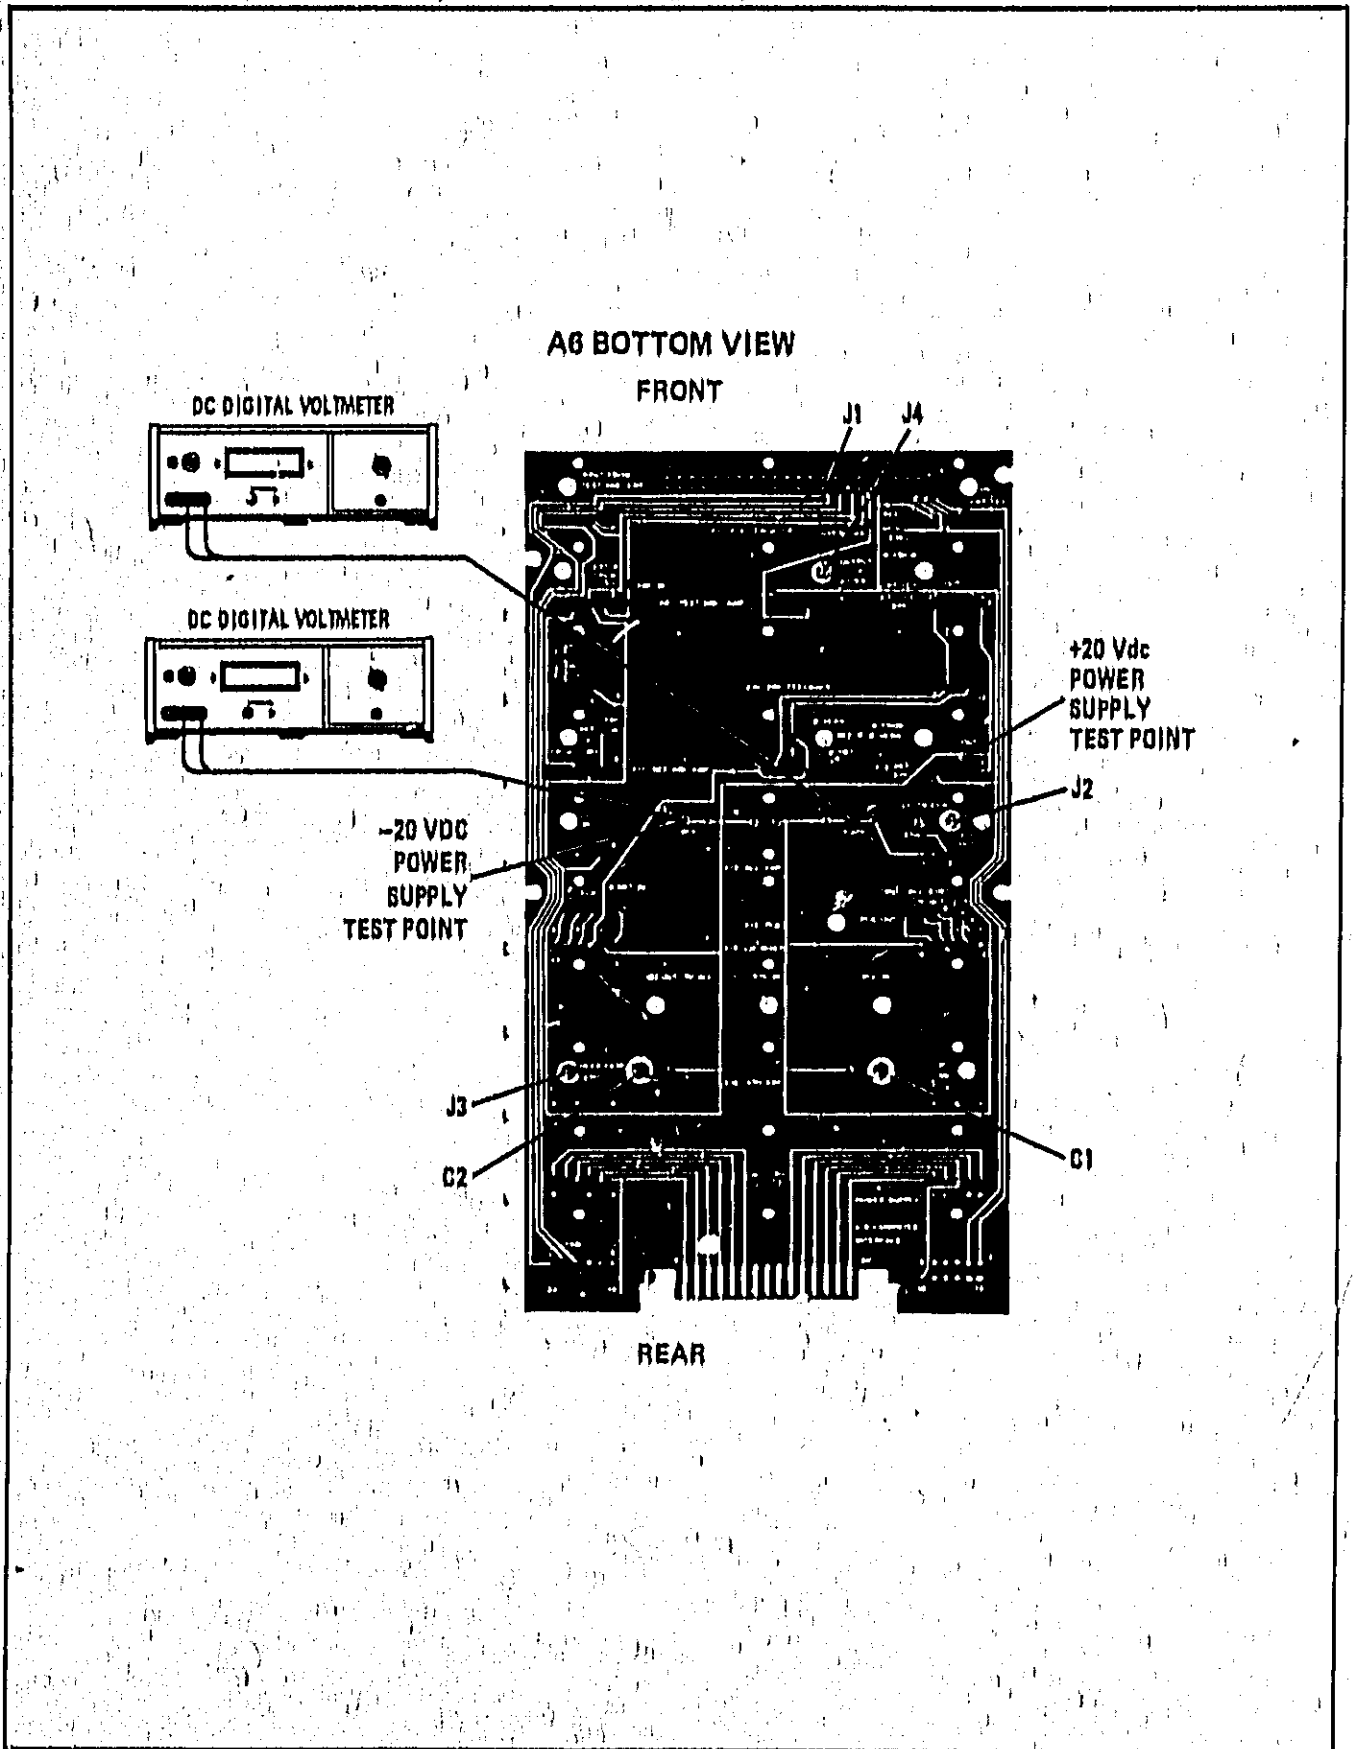
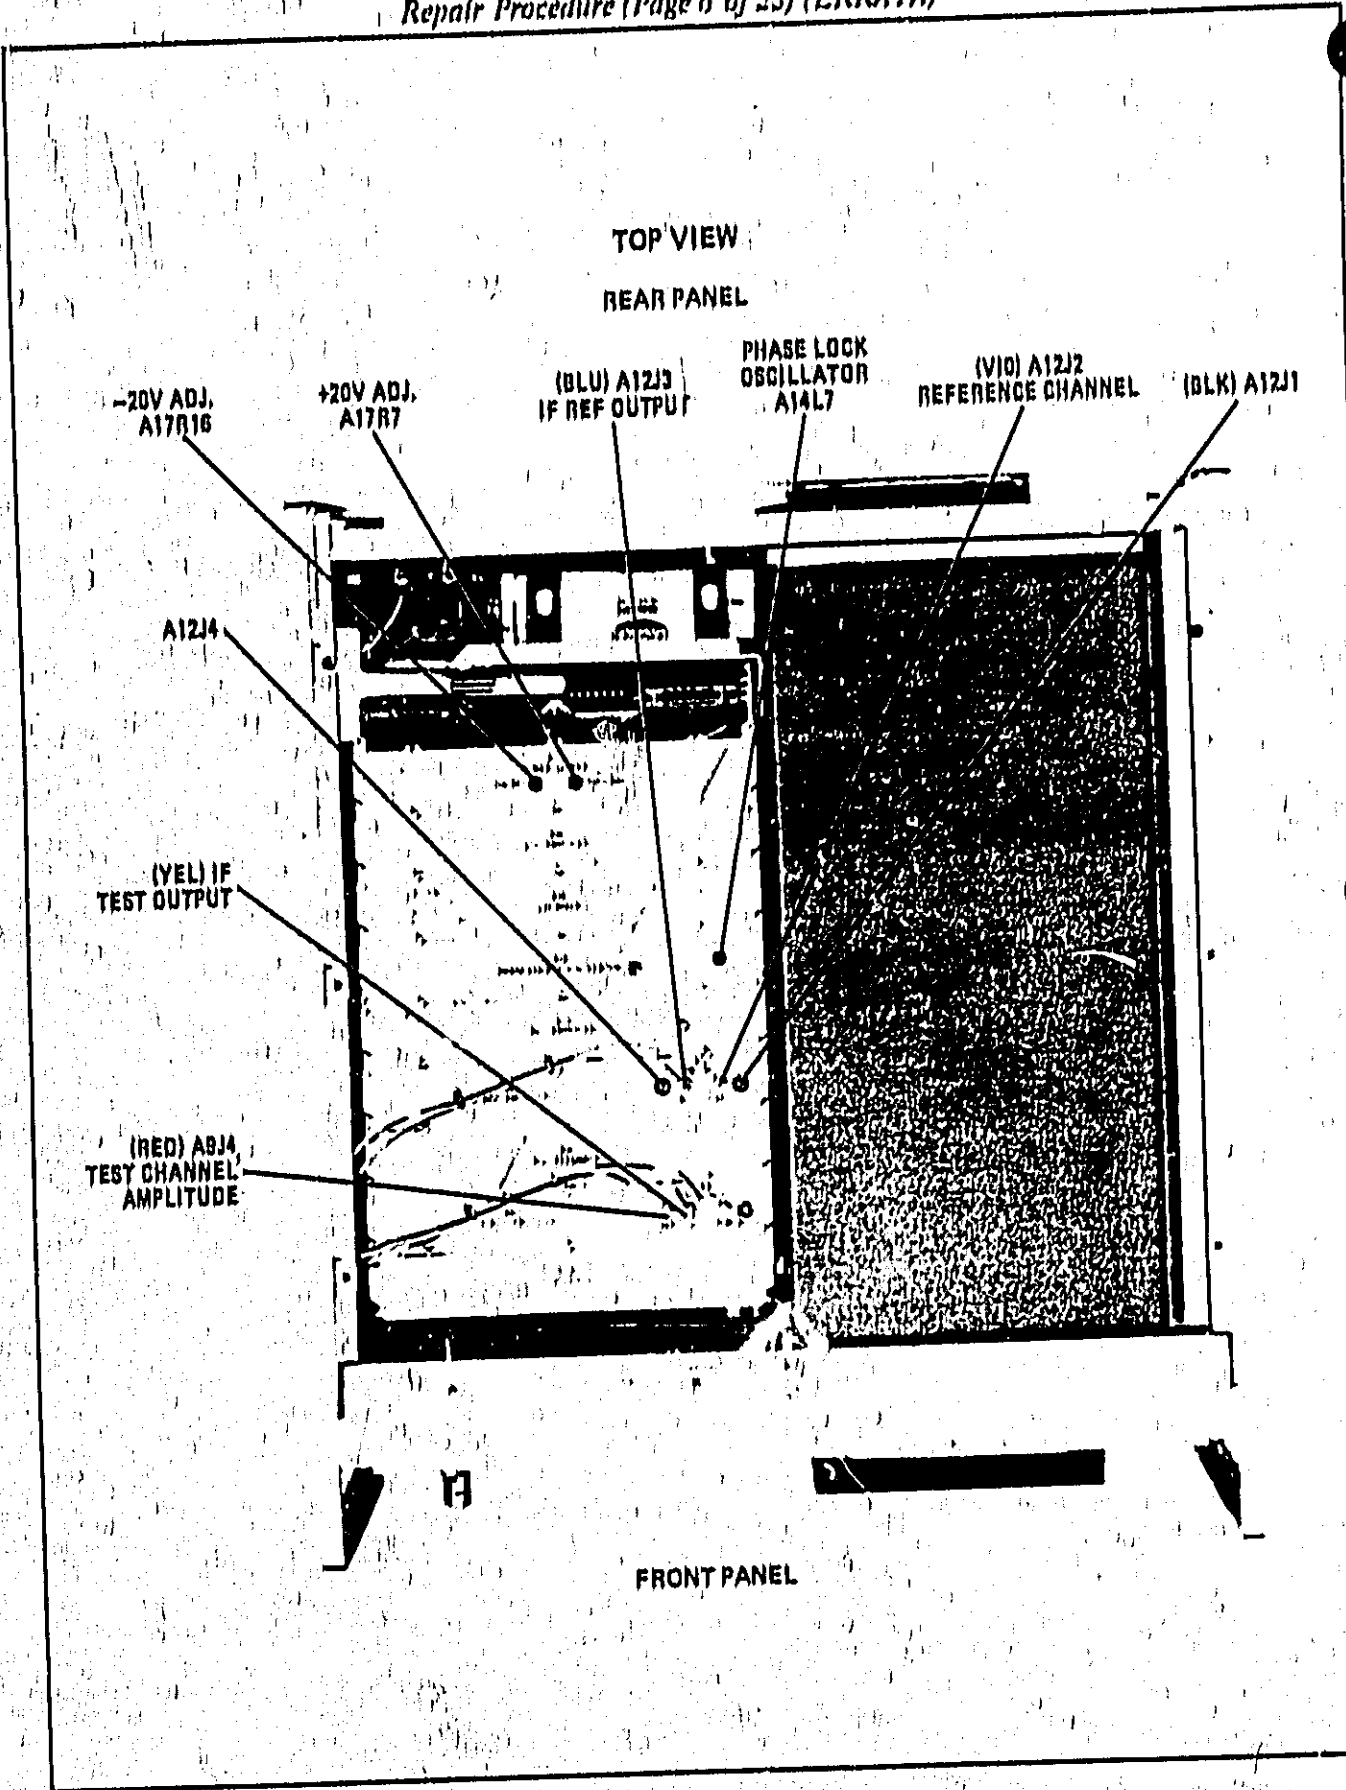
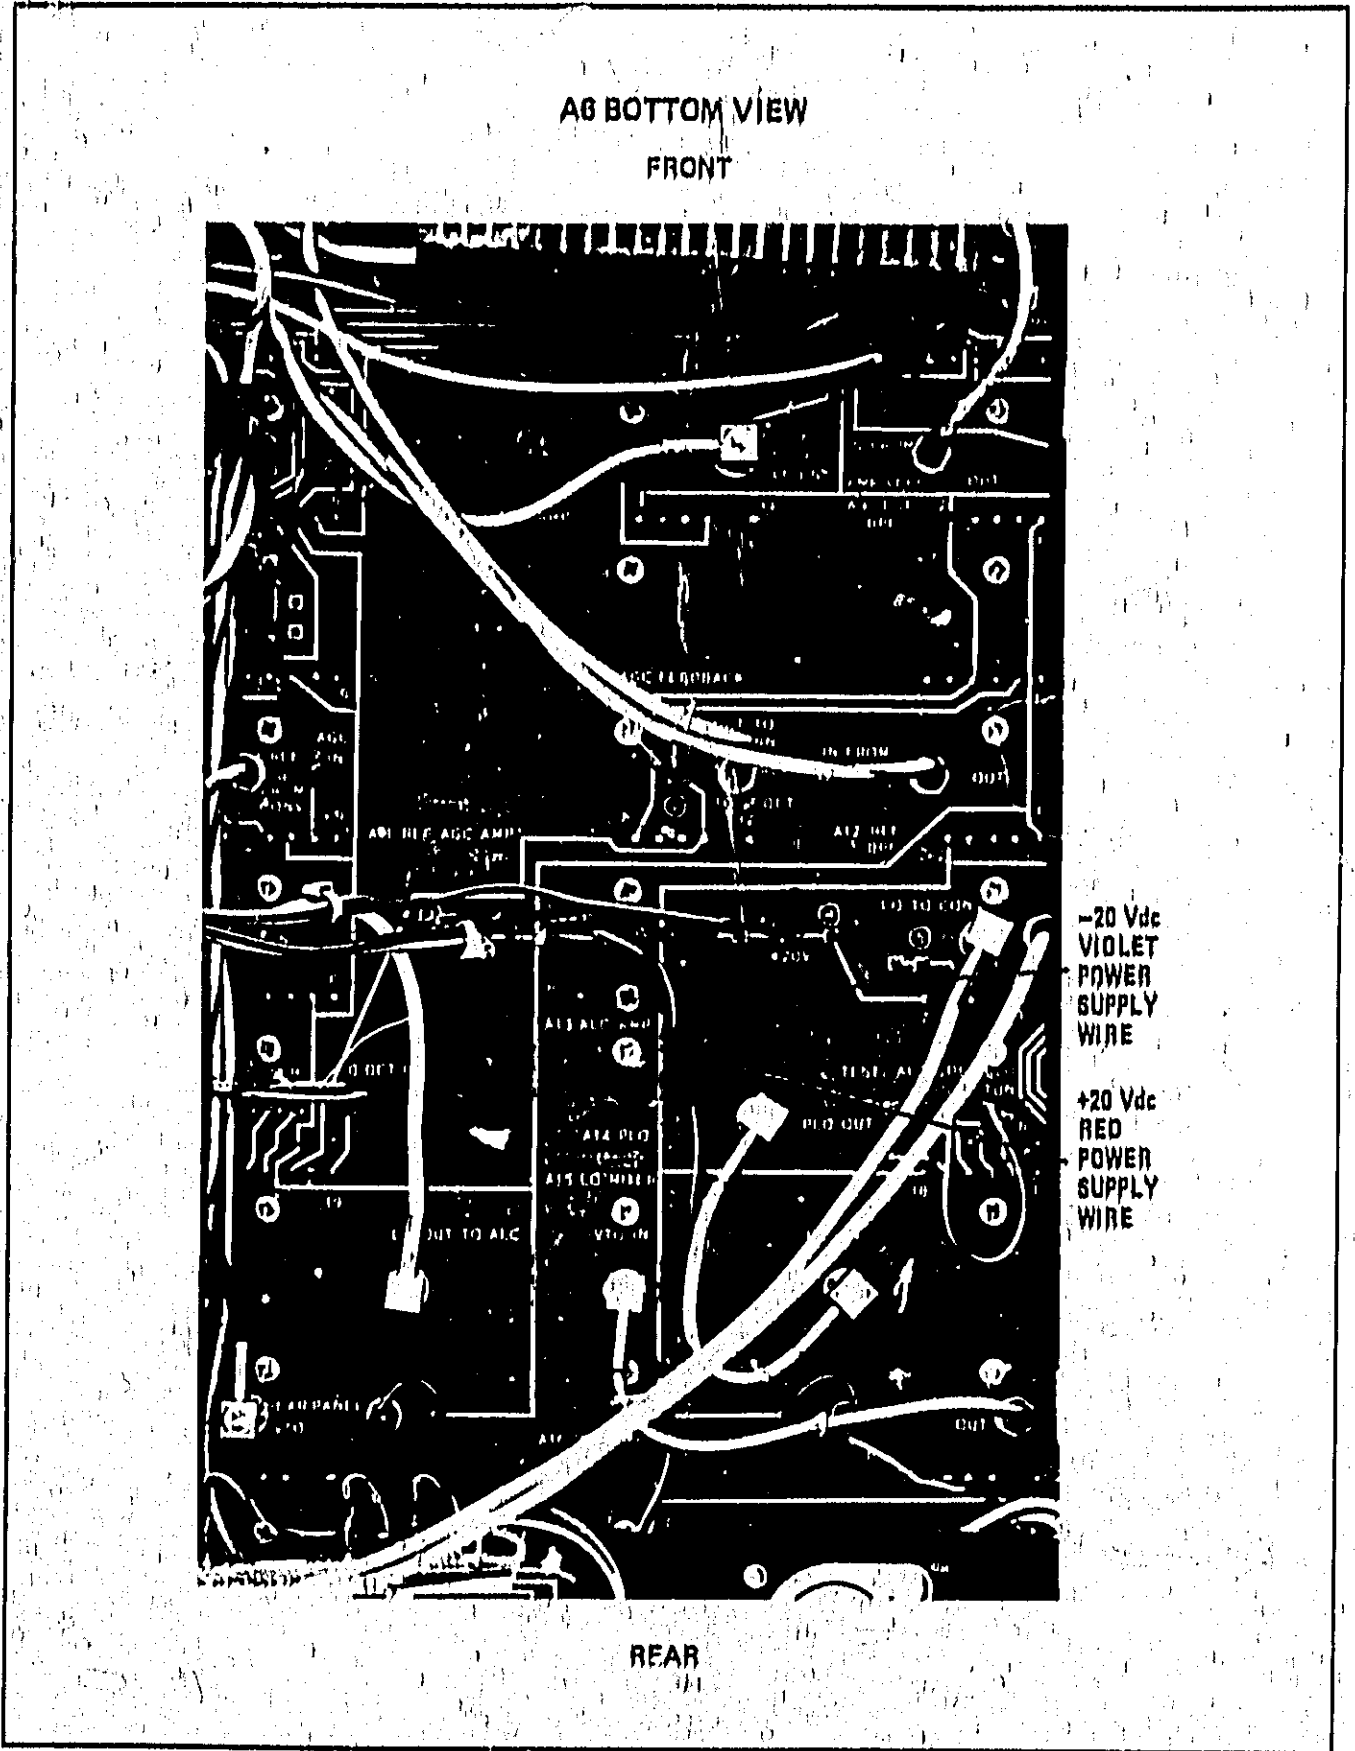

Figure 7-2D. Plus and Minus 20 Vdc Power Supply Test Point Location
Figure 7-2E. Power Supply and Phase Lock Adjustment Location
Figure 7-2F. Location of ±20V dc RED and VIOLET Power Supply Wires
a. Connect a Digital Volt Meter to the "+" 20V supply on the bottom of the AG Master Board of the 8407A (marked +20V), (See Figure 7-2D). Turn on the power to the 8407A. The +20V supply should be $+20V \pm 0.01V$. If this supply is out of specification, adjust A17R7 (see Figure 7-2E). Now connect the DVM to the -20 volt supply. It should read $-20\text{volts} \pm 0.01$ volts. If it is out of tolerance, adjust A17R16 (see Figure 7-2E). If the + or - 20Vdc power supply is low, (less than 15V) turn off the power. Connect ohmmeter first to the +20V supply test point and ground, then to the -20V supply test point and ground (see Figure 7-2F). The resistance to ground of the +20V supply should be $300\Omega \pm 100\Omega$ and the -20V supply ground should be $\approx 500\Omega \pm 200\Omega$. If there is a short to ground on one of the supplies, printed circuit boards may be pulled (with the instrument still off) until the board with the short is located.
To troubleshoot the instrument with a defective power supply, disconnect the RED and VIOLET ± 20 Vdc power supply wires, (they are twisted together) from the AG Master Board. (See Figure 7-2F for location of RED and VIOLET power supply wires.) This disconnects the power supply from the rest of the boards in the instrument.
- c. Using a non-metallic adjusting tool, adjust A14L7 to get the instrument to phase lock. (On the top of the B407A there is an access hole marked L7 for this purpose (see Figure 7-2E). If the "Q" Dope that should be on the coil prevents you from doing this, remove the A14 Phase Lock Oscillator board from the instrument. Because the slug used in L7 is slotted on both ends, the slug can now be broken loose from the bottom of L7 coil form.